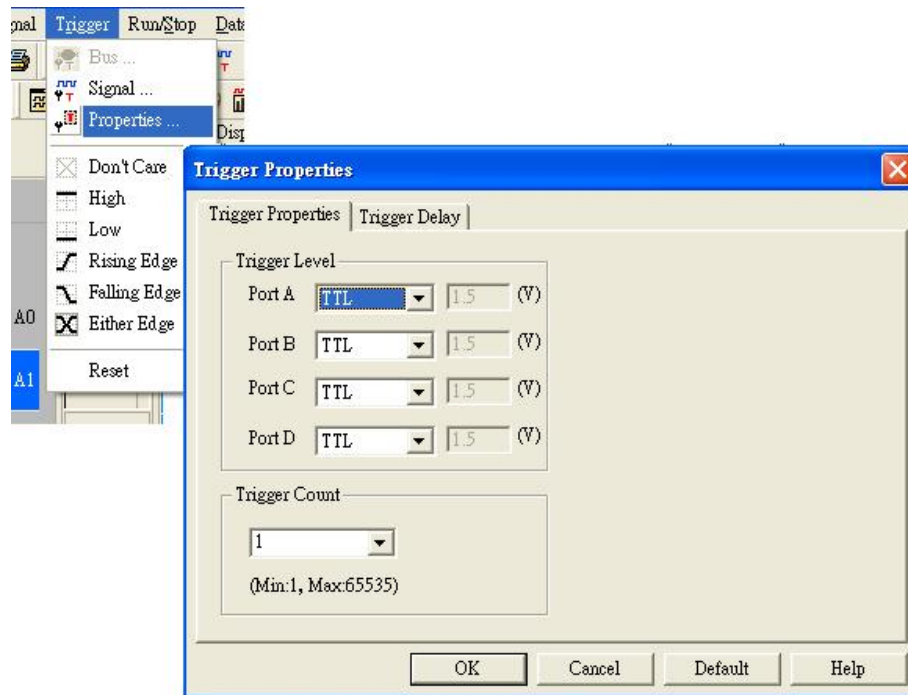

Fig 4-4 – Trigger Properties
Step 1. Click  icon or Click Properties from the Trigger on the Menu Bar. The dialogue will appear as shown in Fig 4-4.